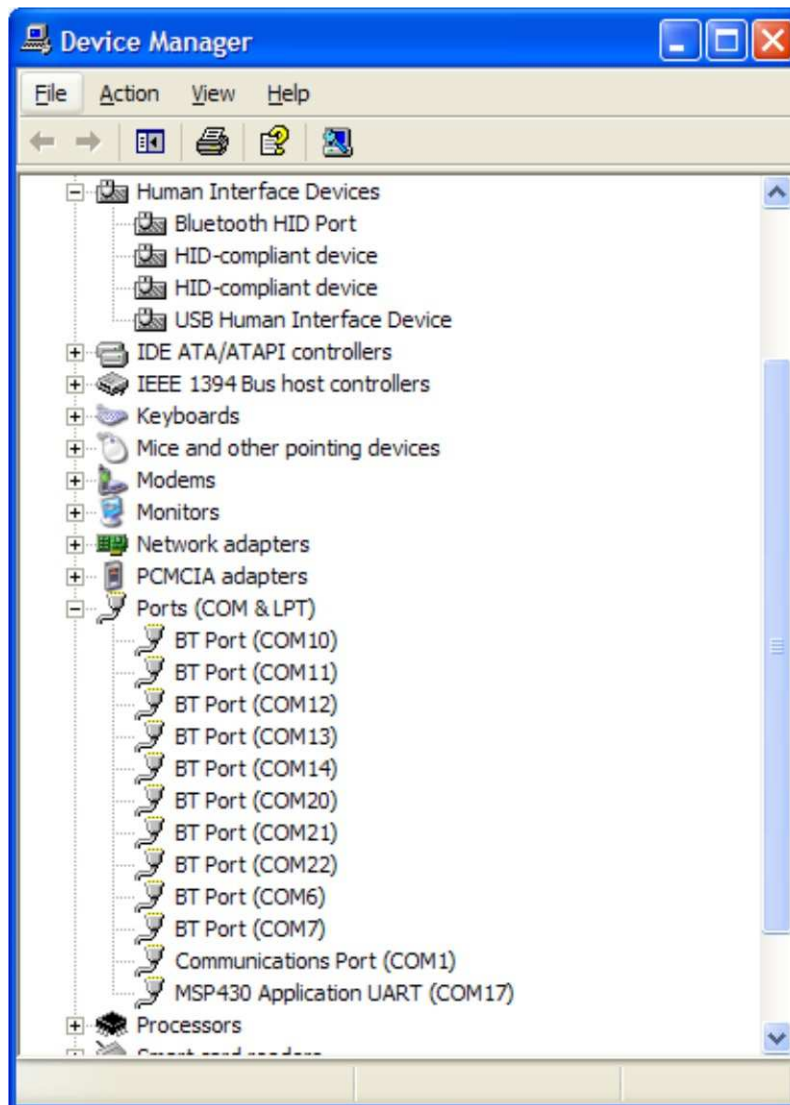

Figure B-13. eZ430-RF in Windows Device Manager as HID and COM Port Devices
5. The USB debug interface is installed and ready to use. The Windows Device Manager lists a new entries for a Human Interface Device and the MSP430 Application UART (COMx) (see Figure B-13).